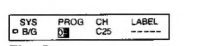

Fig. 5
- 5 Select the second element of the double-digit number with $\Delta+$ or $\nabla-$ or the number buttons (e.g. For »04«, select »4« here) (See Fig. 5.) and press OK.